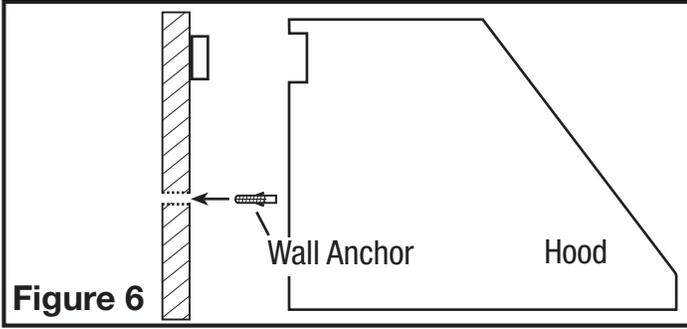

Figure 6
3. Rest the cavity in the back side of the hood on the wood strip and mark drilling locations on the wall for wall anchors on the bottom rear of the hood then remove hood and install wall anchors (Figure 6).
**NOTE:** When the duct termination is similar to that shown in Figure 6 (passing through the wall to which the hood is mounted) the installation requires special consideration. Depending upon where the wall studs are located, it may be necessary to cut one or more of the wall studs and install a header and footer to transfer the load to the adjacent studs. Additional studs may need to be framed into the opening to attach dry wall or secure the hood. If this is your situation Air King recommends that you hire a professional and comply with all applicable codes.